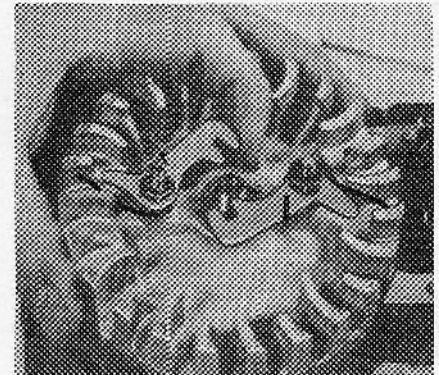

Fig. PR4-13—The starter pawls and springs should be installed as shown. A balance weight may be used with only one pawl assembly.
REWIND STARTER. Starter pawls (12—Fig. PR4-12) are located on the flywheel and engage a notch in pulley (8) for starting. Some (early) models are equipped with two sets of pawls (12), pivots (11) and springs (13). Later models use one pawl assembly and the weight of parts (11, 12 & 13) is counterbalanced by weight (14). Pawls and springs should be installed as shown in Fig. PR4-13. Starter must be disassembled to renew rope (3—Fig. PR4-12) or rewind spring (7). The 5/32-inch diameter nylon cord should be 45 inches long. The rewind spring should be preloaded 3 turns where assembling.